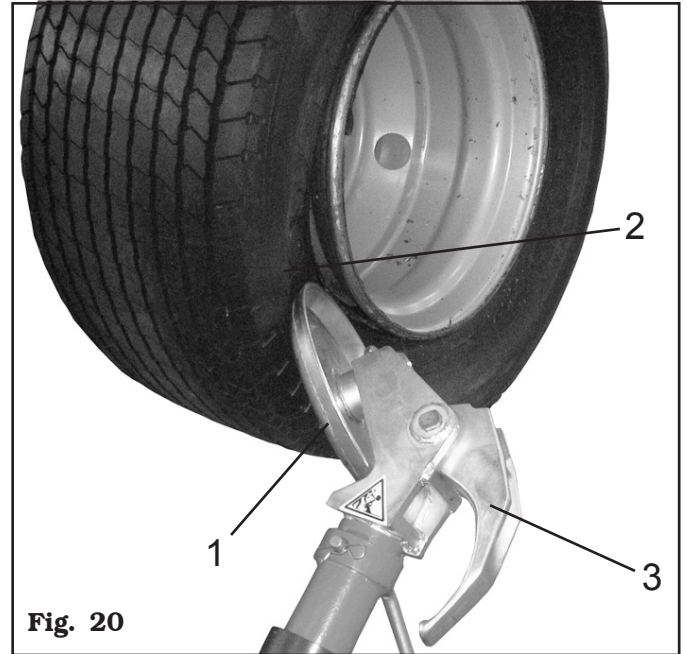

Fig. 20
- E.** Place as shown in Fig. 20 the beading disc (Fig. 20 ref. 1) by means of the relevant handle control; the outer profile of the rim (Fig. 20 ref. 2) must almost touch the beading disc.